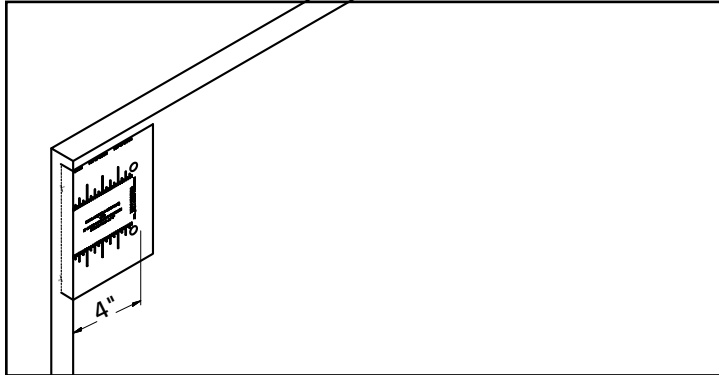

Figure 5. Bent Hanger Drill Guide (Flush Door)
Drill pilot holes for mounting the Bent Hanger brackets to the door, as shown in Figures 5 or 6.
If the door slab being used does not have a distinct stile the recommended edge alignment is at the 8" line on the Bent Hanger Drill Guide (Figure 5).
3. Orient the Bent Hanger Drill Guide on the front of the door as seen in Figure 5 or 6. Align the top edge and the left/right edge to the corresponding dashed line.